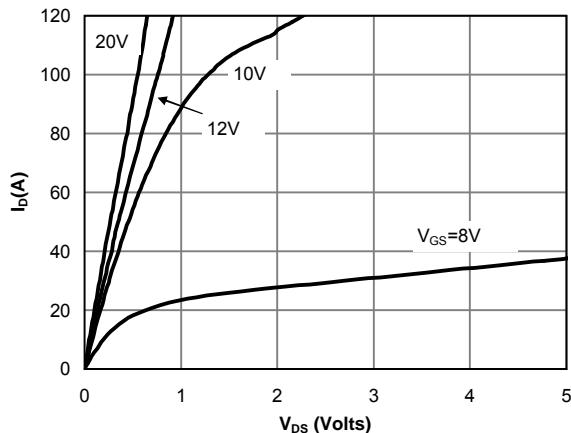

Figure 1: On-Region Characteristics
E. The static characteristics in Figures 1 to 6 are obtained using  $<300\text{ }\mu\text{s}$  pulses, duty cycle 0.5% max.